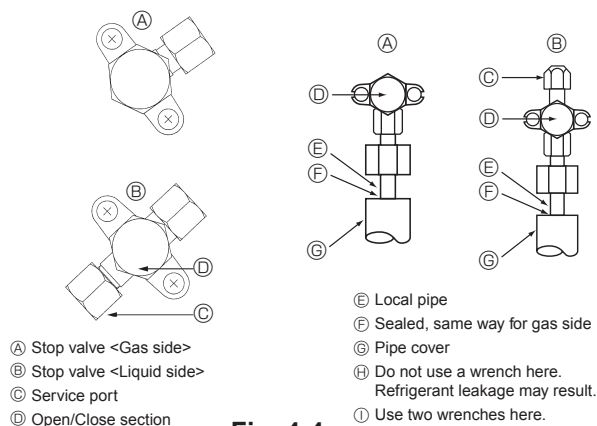
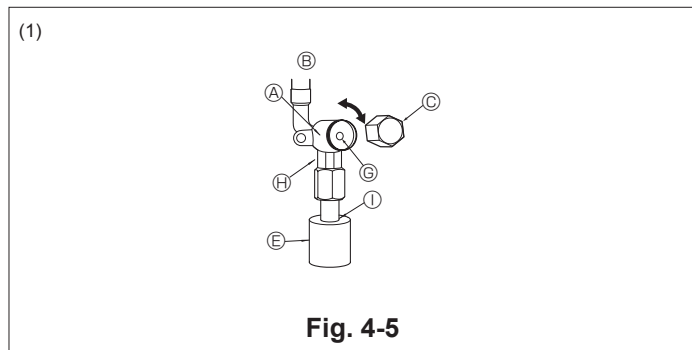

Fig. 4-4
Fig. 4-5
4.4. Refrigerant pipe airtight testing method (Fig. 4-4)
- Make sure the stop valves (A) (B) are closed and do not open them.
- Add pressure to the refrigerant lines through the service port (C) of the liquid stop valve (D).
- If the pressure decreases in steps (2) or (3), there is a gas leak. Look for the source of the gas leak.
- Gas side (Fig. 4-5)